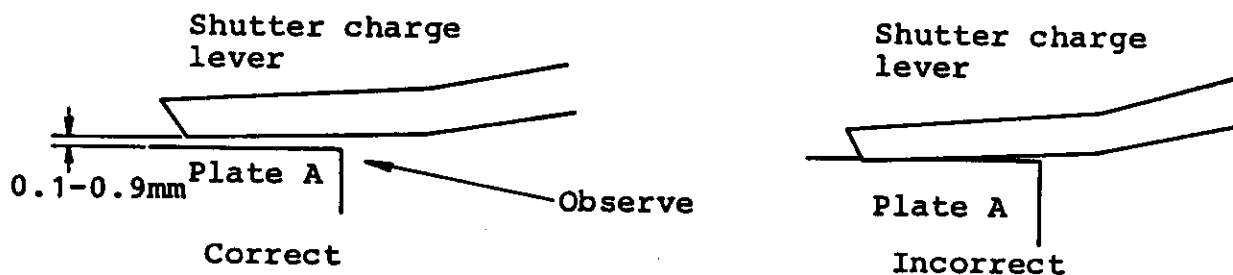

Fig.2
4. Observe the space between the top of shutter charge lever and plate A through the film rewind base plate. (Refer to Fig.2)